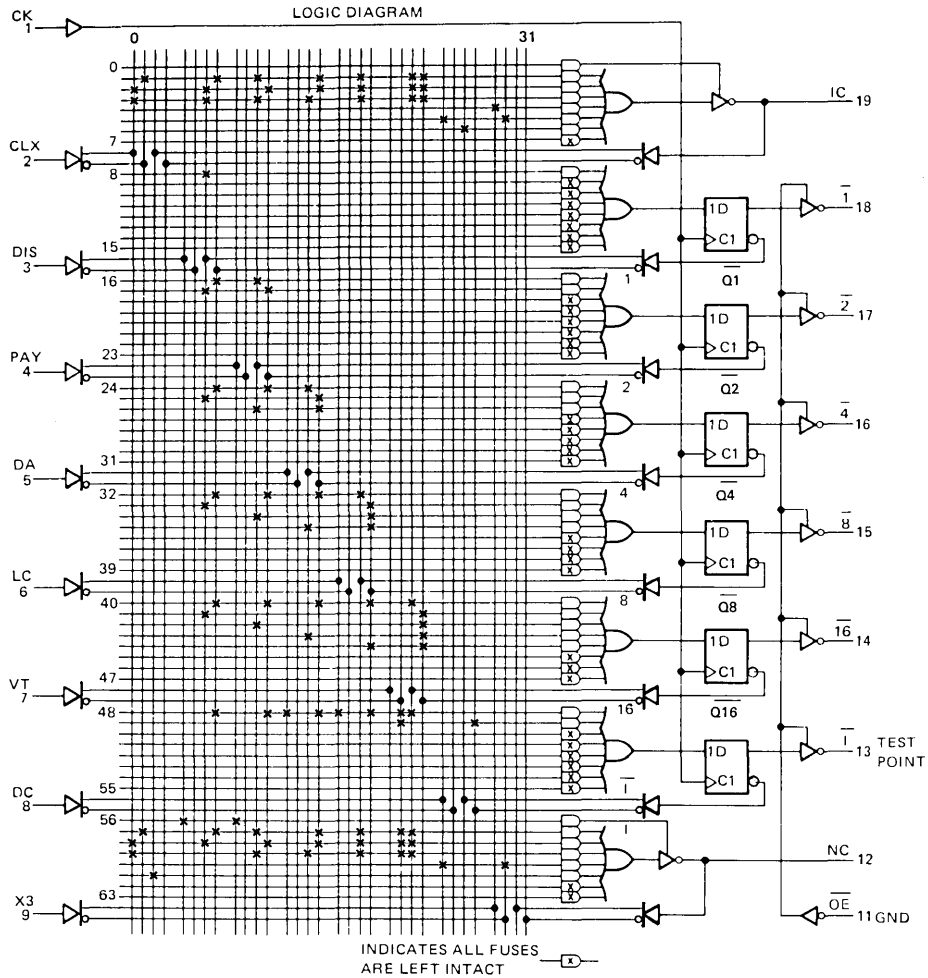

FIGURE 23. PL16R6 LOGIC DIAGRAM
1. Take a copy of the logic diagram for the selected device (see Figure 23).